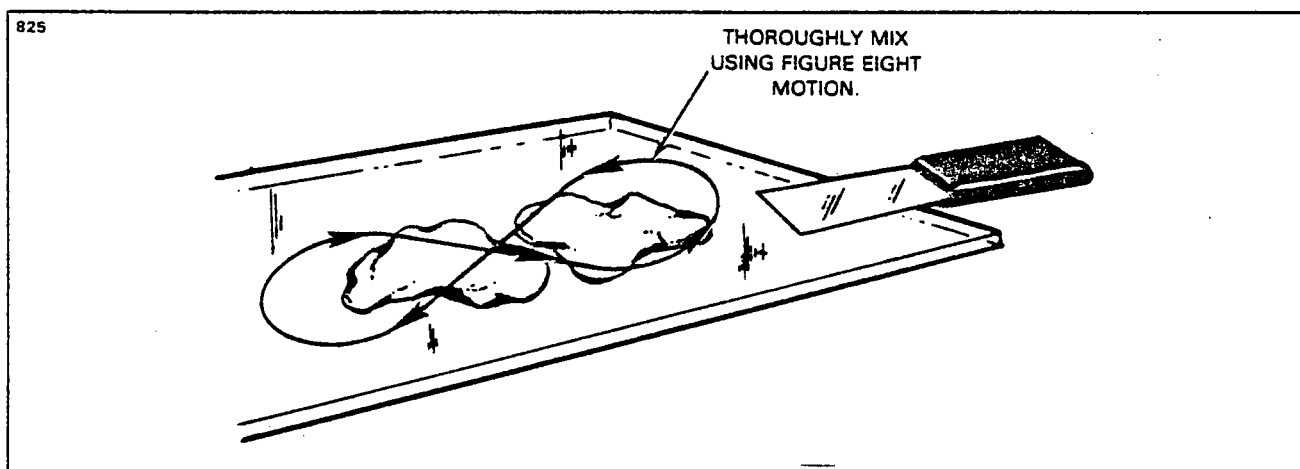

Figure 51-4. Mixing of Epoxy Patching Compound
F. The patching compound is mixed in equal portions on a hard flat surface using a figure eight motion. The damaged area is cleaned with perchlorethylene or VM&P Naptha prior to applying the compound. (Refer to Figure 51-4.)